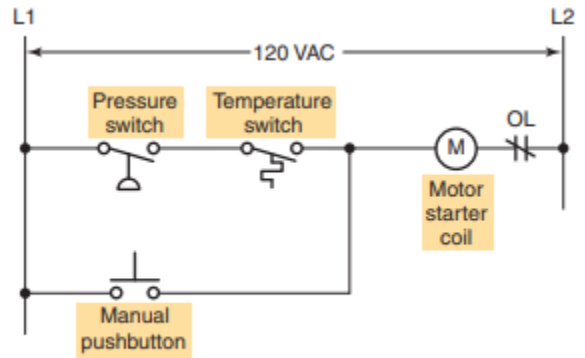

Figure 1-18 Process control relay ladder diagram.
11. Answer the following with reference to the process control relay ladder diagram of Figure 1-18 of this chapter: